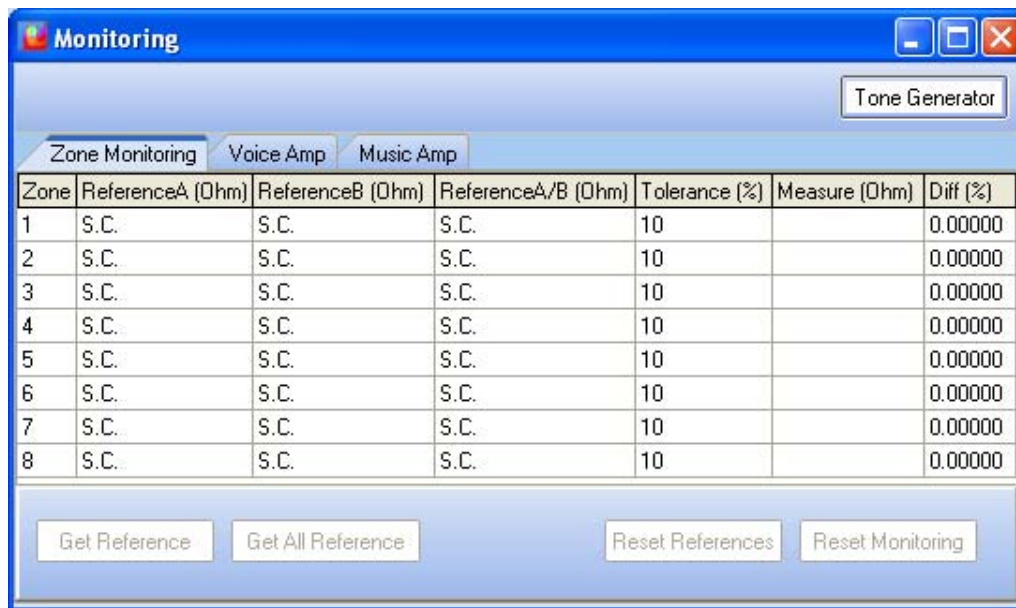

Figure 24: Monitoring Window
- In the “Monitoring” window (Figure 24), you can see the machine and tone generator display. It informs which DIVA you are currently monitoring. **Note: all DIVA in your Network are real time surveillance monitored.**